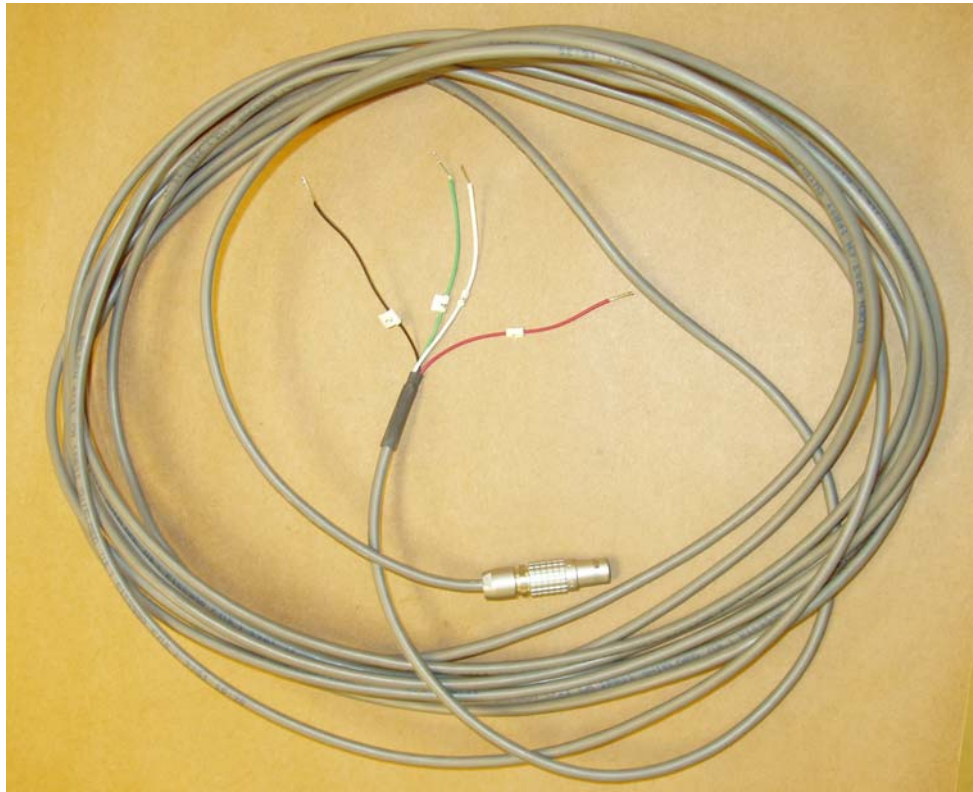

Figure 2.4 Magnet Switch Cable
- Connect the four-pin connector on the cable shown in Figure 2.4 to the four-pin receptical on the probe top.
- On the front panel of the Agilent E3610A dc power supply, connect the green wire of the cable shown in Figure 2.4 to the “minus” terminal and the white wire to the “plus” terminal as shown in Figure 2.5. and set the power supply to 2A with the “range” button on the front panel.
- Connect a volt meter capable of measuring millivolts to the black and red leads of the cable shown in Figure 2.4.